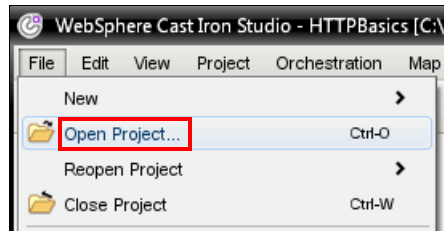

Figure 6-10 Open project in Studio
6. Open the Studio tool, and click **Open Project**, as shown in Figure 6-10 on page 291.